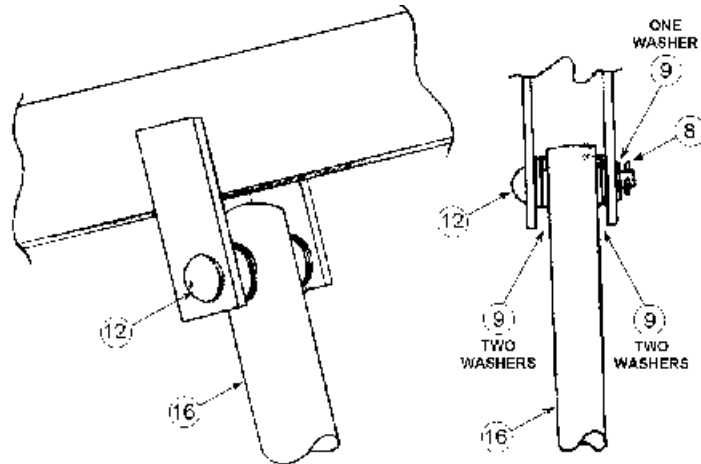

FIGURE 4
**Step #5:** Next, connect the cylinder (item 16) to the overhead assembly: Align ram eye with holes in boom clevis plates and insert a greased clevis pin (item 12) with four 5/8" washers (item 9). Place another washer (item 9) on outer end of clevis pin and drive a 3/16" roll pin (item 8) into the hole at the end of clevis pin. See figure 4.